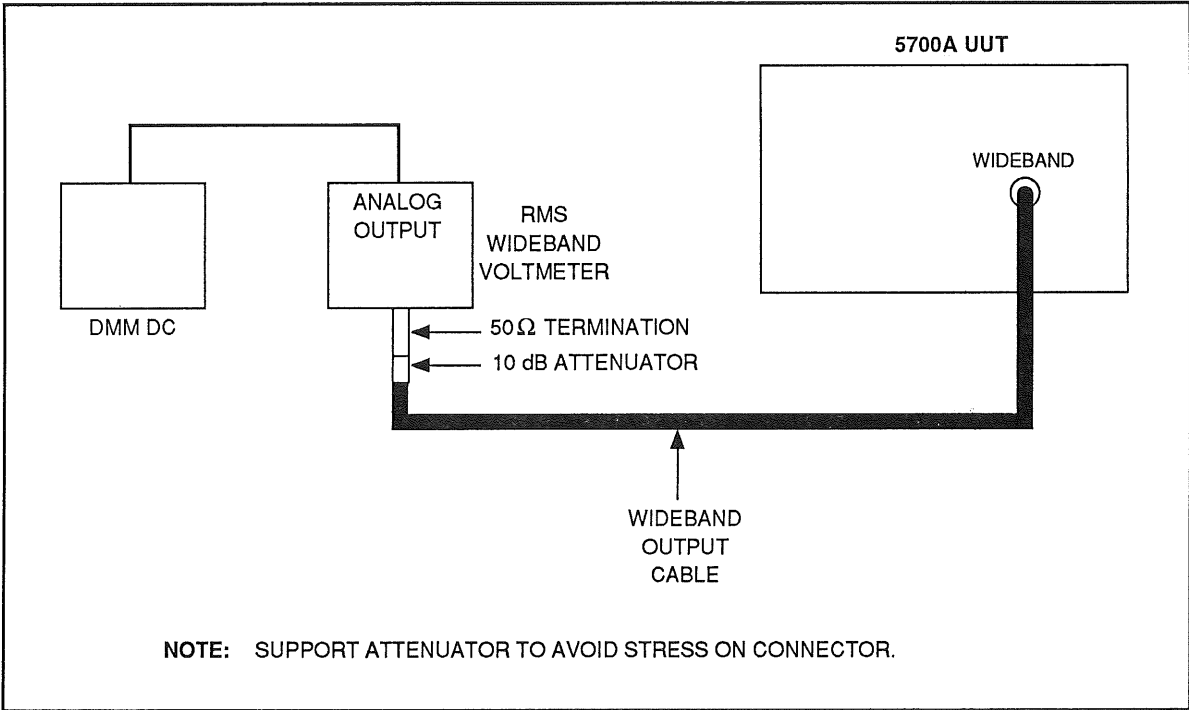

Figure 3-17. 3V Output Flatness Test
1. Connect the equipment as shown in Figure 3-17.